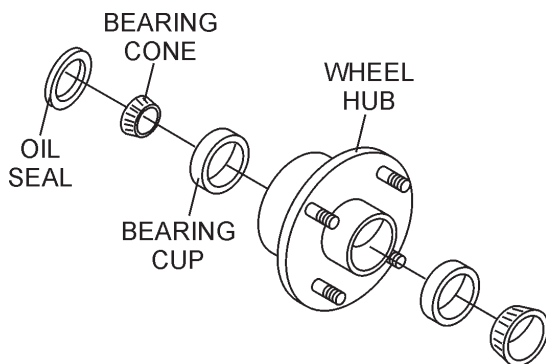

Figure 30. Wheel Hub and Bearings
1. After every 3 months of operation, remove the hub dust cap and inspect the wheel bearings (Figure 30). Once a year, or when required, disassemble the wheel hubs remove the old grease and repack the bearings forcing grease between rollers, cone and cage with a good grade of high speed wheel bearing grease (**never** use grease heavier than 265 A.S.T.M. penetration ("No. 2.")
2. Fill the wheel hub (Figure 30) with grease to the inside diameter of the outer races and also fill the hub grease cap. Reassemble the hub and mount the wheel. Then tighten the adjusting nut, at the same time turn the wheel in both directions, until there is a slight bind to be sure all the bearing surfaces are in contact.